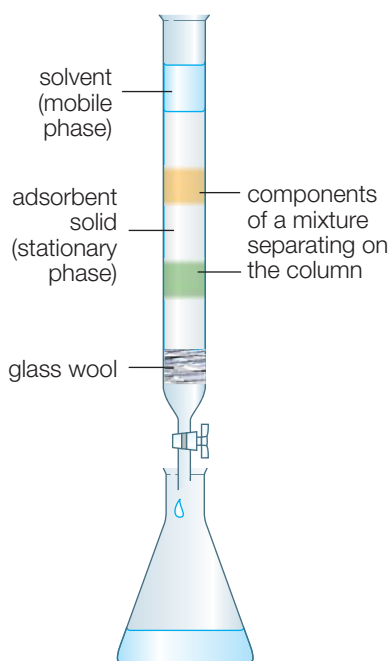

Figure 8.2 ▲
- In Figure 8.2, state the colour of the component of the mixture being separated that has the greater tendency to: